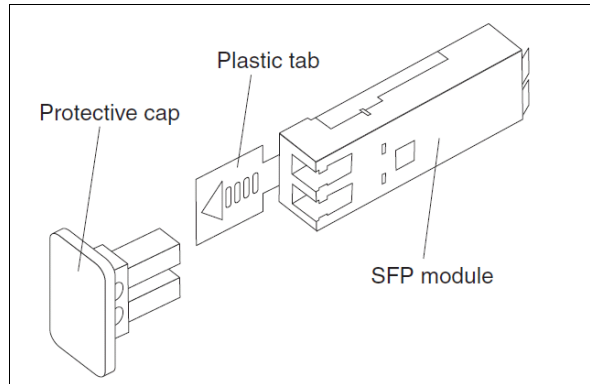

Figure 3-12 SFP module and protective cap
2. Remove the protective cap from the SFP module, as shown in Figure 3-12. Save the protective cap in a dust-free place for future use.